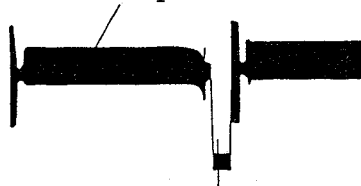

Fig. 4-8
8) Réglage de calage R-Y, B-Y (Figs. 4-8, 4-52)